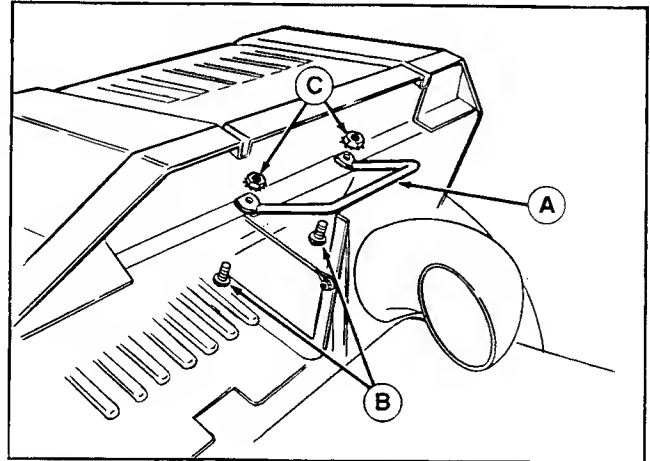

Figure 7.
10. Install handle (A, figure 7) to rear surface of lid with offset toward the rear. Secure with two 10-32 x 1/2 truss screws (B, from inside) and 10-32 hex nuts (C).